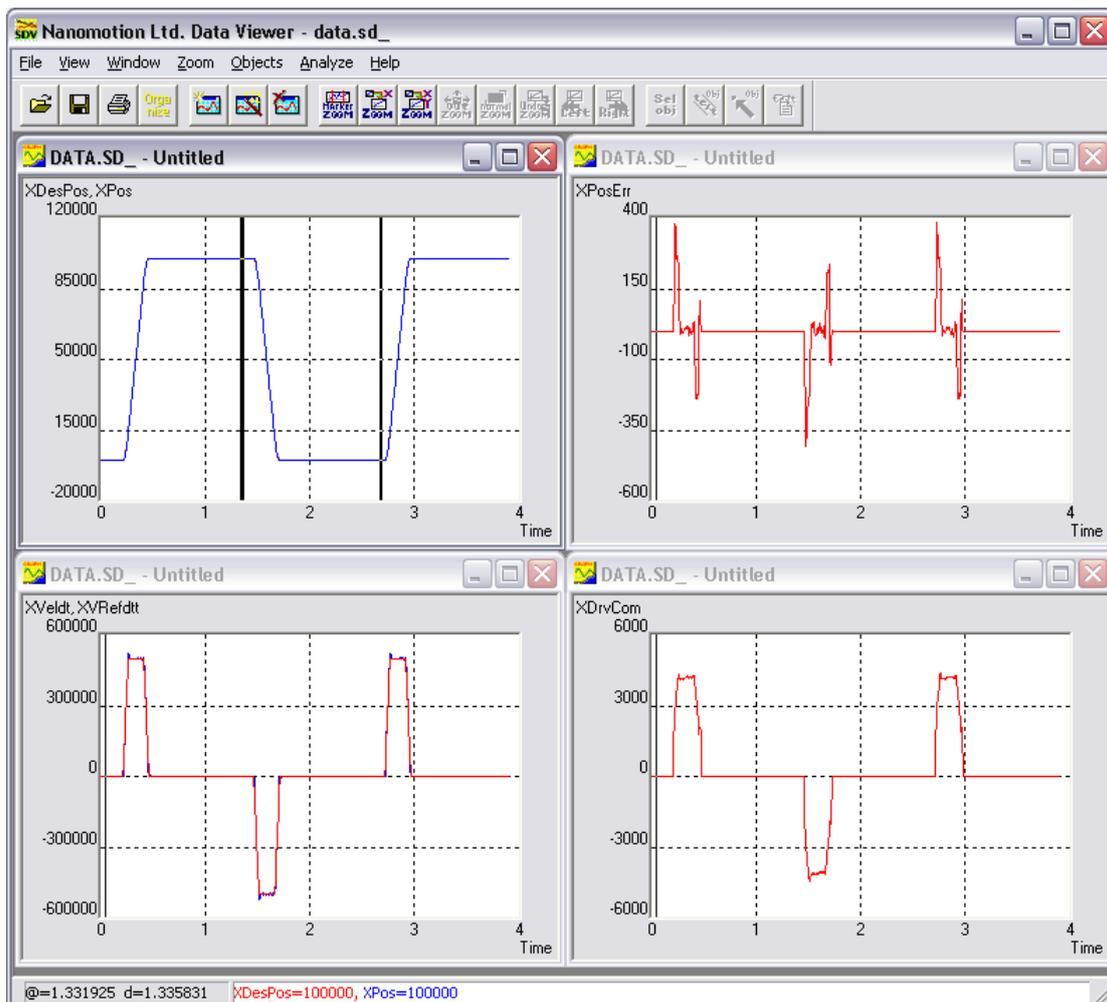

Figure 15: Data Viewer windows – with AB1A Driver
15. Begin to increase “Position PI Gain [KP]” (from 1000) by 200 to max of 2000; record each step (use the button) and observe the Position Error, driver command and velocity (see Figure 15). The goal is to optimize the Position Error and Position Error converging during the move.